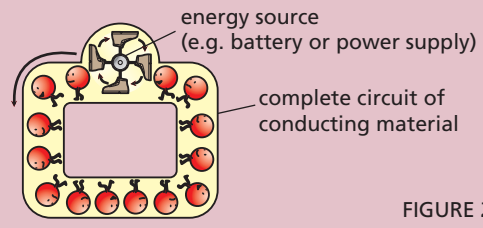

FIGURE 2.6.20b
13. Figure 2.6.20b shows a model of a circuit. How would you change this model to show an increased voltage and resistance? [2]